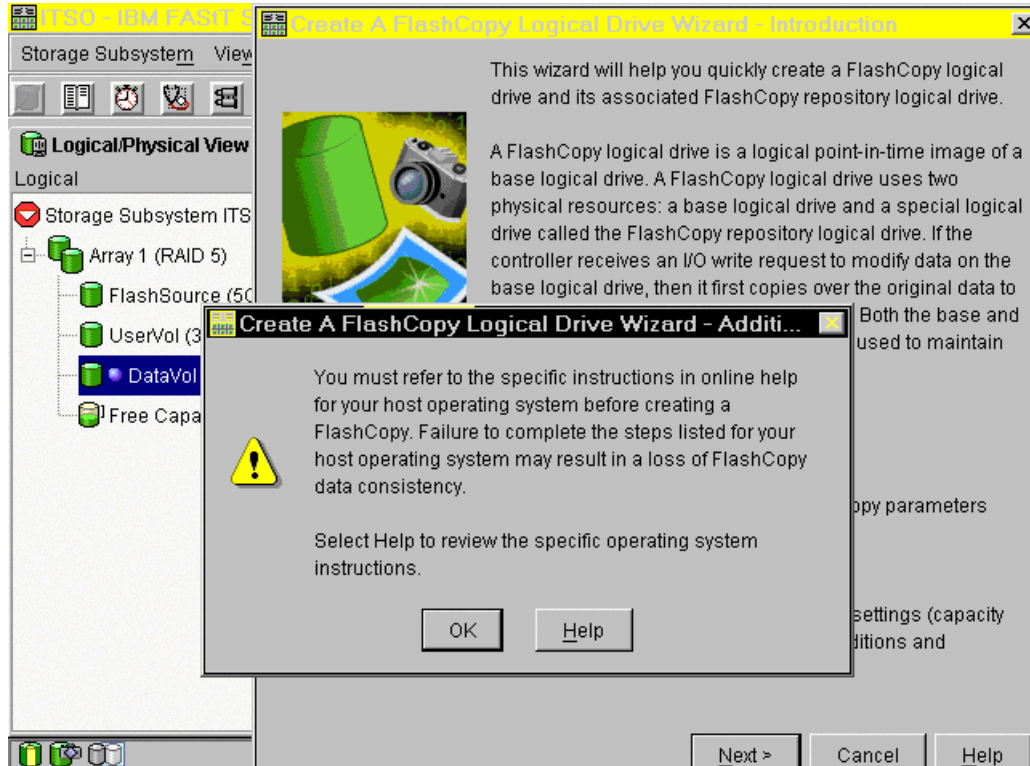

Figure 5-9 Create FlashCopy Logical Drive Wizard startup
The Create FlashCopy Logical Drive Wizard begins as shown in Figure 5-9.
- a. Review the information on the initial window as shown in Figure 5-9. Click **OK** to proceed to the wizard introduction window.